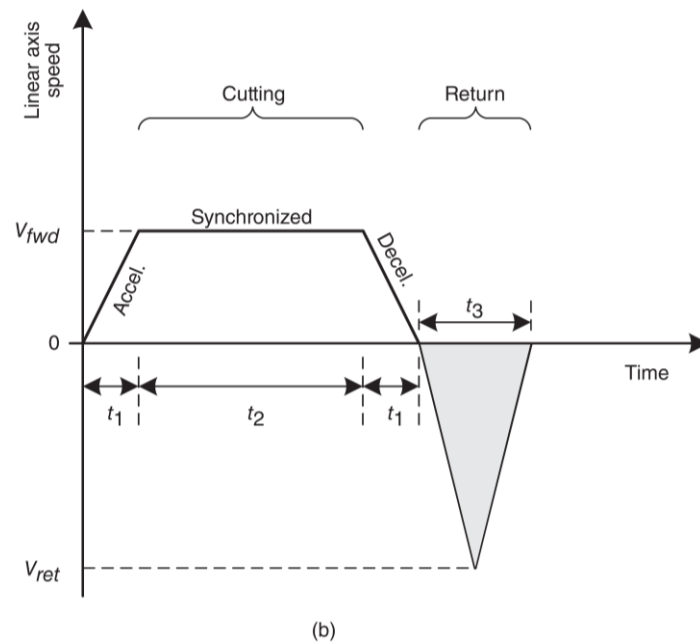

Figure 2: (a) Flying shear machine to cut continuous material into fixed lengths. (b) Velocity profile for the shear
- 2) In the motion control application shown in Figure 2, the nip rolls feed long wood boards which are cut to equal length pieces. Figure 1b shows the velocity profile for one cycle of the linear axis that carries the shear. The shear waits at a hover position over the conveyor. When it gets a signal from the controller, it accelerates and matches the speed of the conveyor (constant velocity segment). During this time, the shear is lowered and retracted to make the cut. After that, the axis slows down to zero speed and returns to the hover position. Find the return velocity  $V_{ret}$  to be programmed into the controller.